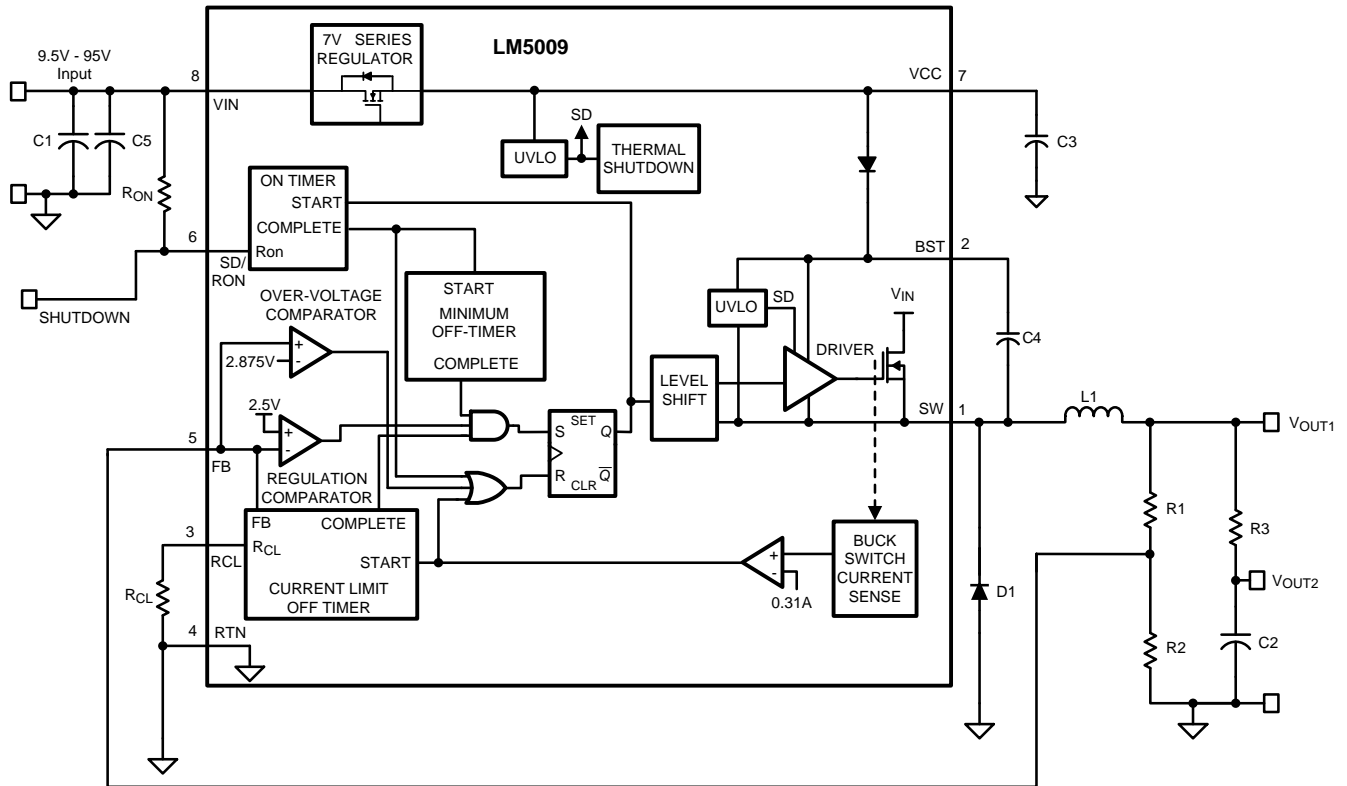

Figure 8.
The LM5009 Step Down Switching Regulator features all the functions needed to implement a low cost, efficient, Buck bias power converter. This high voltage regulator contains a 100 V N-Channel Buck Switch, is easy to implement and is provided in the VSSOP-8 and the thermally enhanced WSON-8 packages. The regulator is based on a control scheme using an on-time inversely proportional to  $V_{IN}$ . The control scheme requires no loop compensation. Current limit is implemented with forced off-time, which is inversely proportional to  $V_{OUT}$ . This scheme ensures short circuit protection while providing minimum foldback. The Functional Block Diagram of the LM5009 is shown in Figure 8.
The output voltage ( $V_{OUT}$ ) is programmed by two external resistors as shown in Figure 8. The regulation point is calculated as follows:
This regulator regulates the output voltage based on ripple voltage at the feedback input, requiring a minimum amount of ESR for the output capacitor C2. A minimum of 25mV of ripple voltage at the feedback pin (FB) is required for the LM5009. In cases where the capacitor ESR is too small, additional series resistance may be required (R3 in Figure 8).
A guide for determining the component values will be illustrated with a design example. Refer to Figure 8. The following steps will configure the LM5009 for:
**R1 and R2:** From Figure 8,  $V_{OUT1} = V_{FB} \times (R1 + R2) / R2$ , and since  $V_{FB} = 2.5V$ , the ratio of R1 to R2 calculates as 3:1. Standard values of 3.01 k $\Omega$  (R1) and 1.00 k $\Omega$  (R2) are chosen. Other values could be used as long as the 3:1 ratio is maintained. The selected values, however, provide a small amount of output loading (2.5 mA) in the event the main load is disconnected. This allows the circuit to maintain regulation until the main load is reconnected.
a) **ESR and R3:** A low ESR for C2 is generally desirable so as to minimize power losses and heating within the capacitor. However, this regulator requires a minimum amount of ripple voltage at the feedback input for proper loop operation. For the LM5009 the minimum ripple required at pin 5 is 25 mV peak-to-peak, requiring a minimum ripple at  $V_{OUT1}$  of 100 mV. Since the minimum ripple current (at minimum  $V_{in}$ ) is 33 mA peak-to-peak, the minimum ESR required at  $V_{OUT1}$  is 3  $\Omega$ . Since quality capacitors for SMPS applications have an ESR considerably less than this, R3 is inserted as shown in Figure 8. R3's value, along with C2's ESR, must result in at least 25 mV peak-to-peak ripple at pin 5. Generally, R3 will be 0.5  $\Omega$  to 5.0  $\Omega$ .